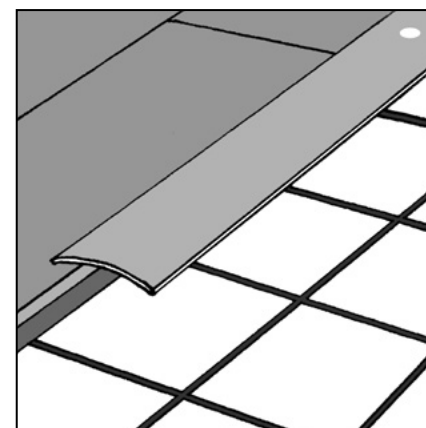

Figure 33 Threshold strip
- > When adjoining other floor coverings, finish in the doorway. An appropriate expansion gap should be left between the interlocking flooring and the adjoining floor covering. This can be covered using a suitable threshold or diminishing strip (fig. 33).